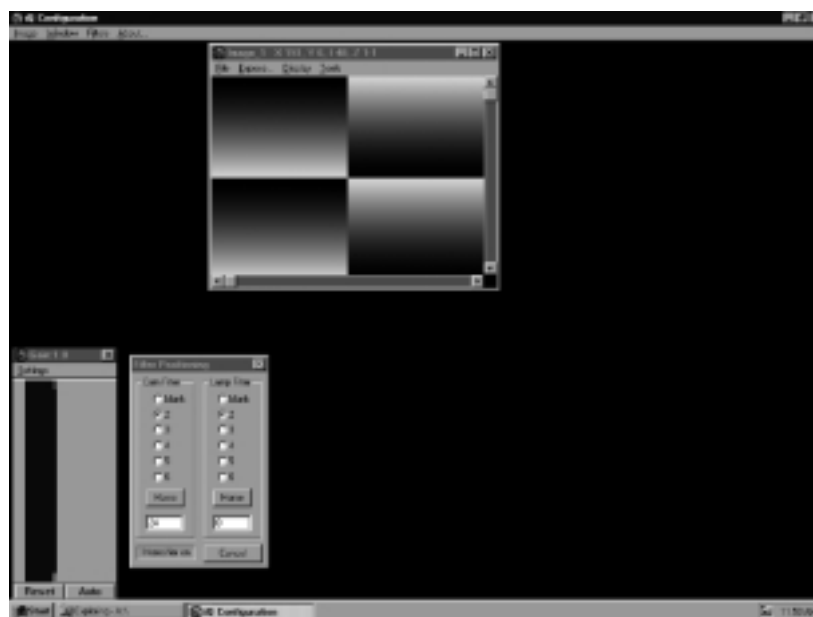

Fig. 6.1. iQ configuration window, showing the image, gain, and filter positioning dialog boxes.
This brings up the iQ Configuration window and two dialog boxes: the Image dialog box and the Gain dialog box (see Figure 6.1.)
3. From the menu bar at the top of the screen, select **Filters**, and then select **Positioning**. This brings up the Filter Positioning dialog box (see Figure 6.1).
2. From the menu bar at the top of the screen, select **Filters**, and then select **Positioning**. This brings up the Filter Positioning dialog box (see Figure 6.1).